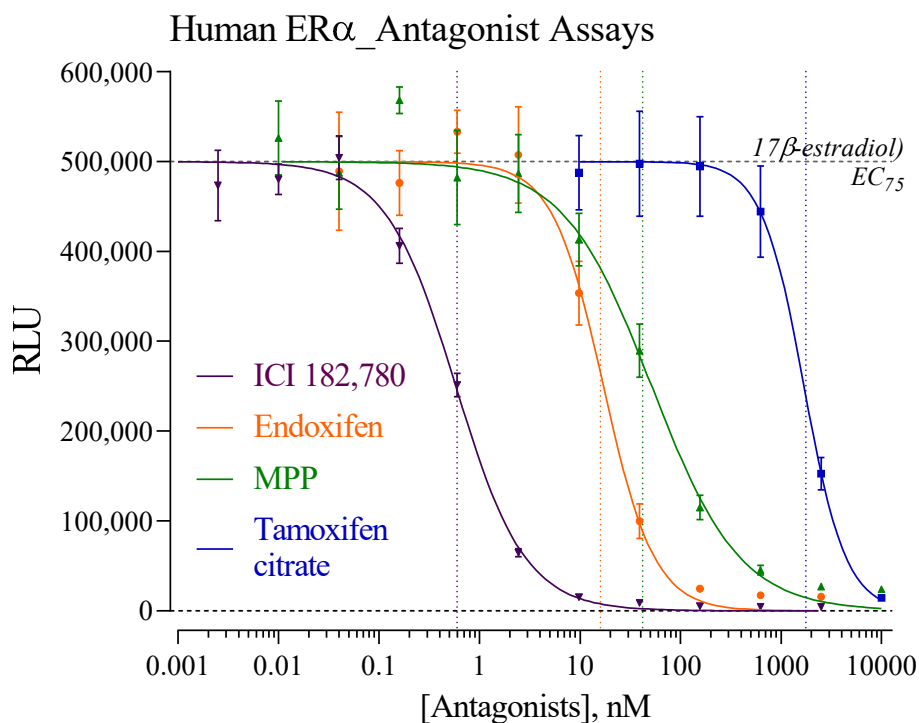

Figure 3. Validation of ER α Antagonist-mode Assays.
- *Optional*: antagonist reference compound (refer to Figure 3)